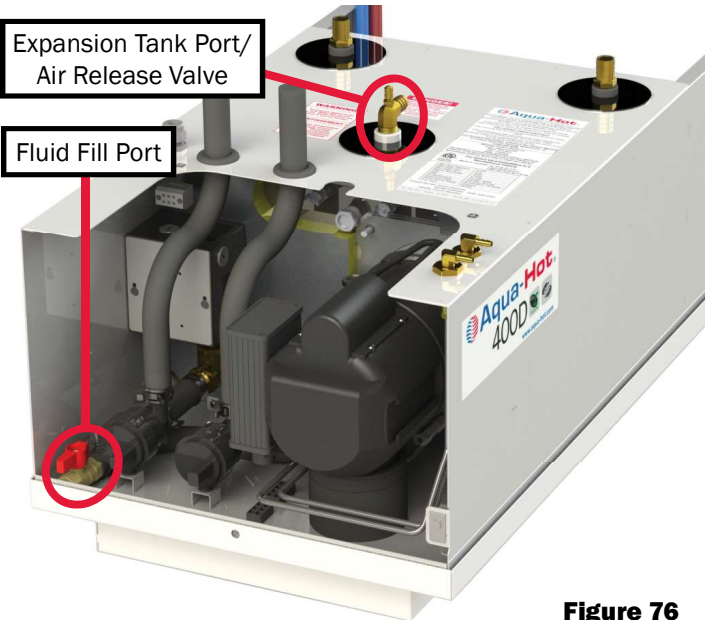

Figure 76
- 3. Open the Aqua-Hot’s drain valve located at the front of the heater. Reference Figure 76.